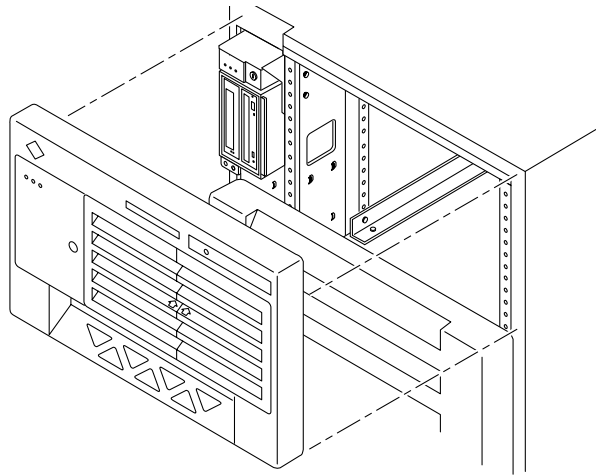
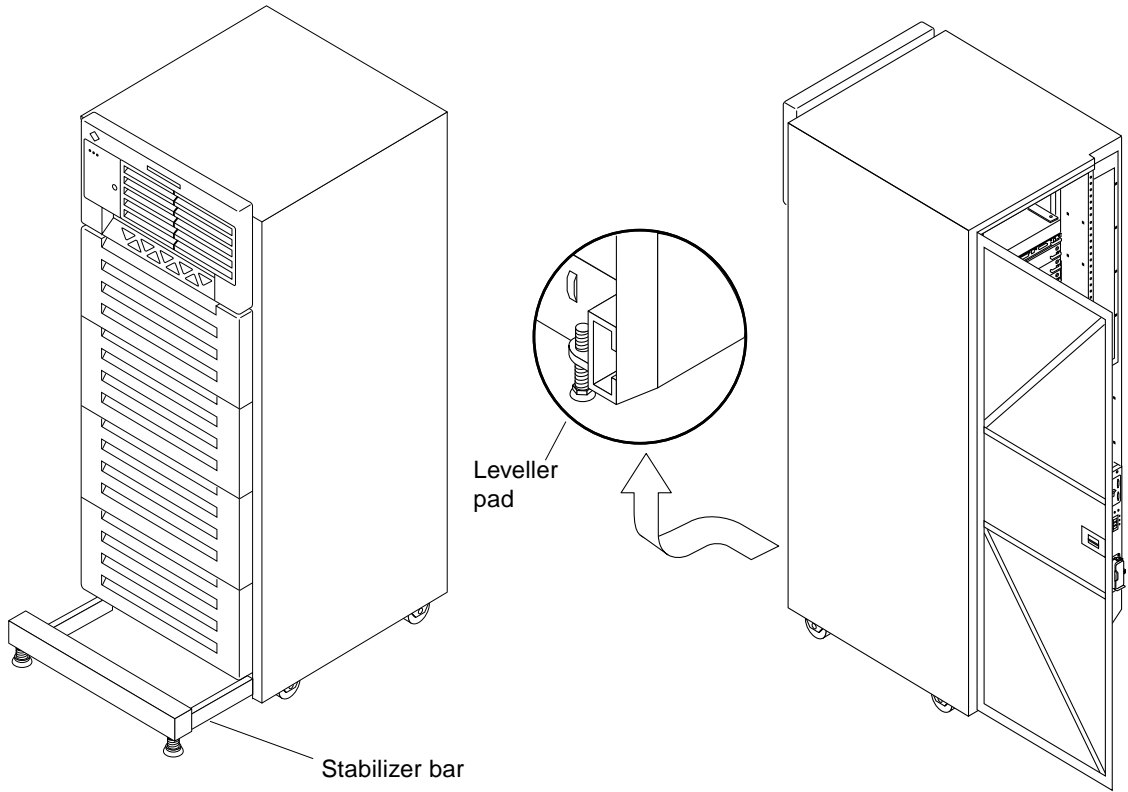

FIGURE 12-1 Removing the Front Bezel
FIGURE 12-6 Stabilizer Bar and Levelling Pads
The Enterprise 6500/5500 system cabinet panels, shown in FIGURE 12-1 through FIGURE 12-6, consist of the following:
2. Grasp the bezel on both sides at the top and pull the bezel away from the ball studs (FIGURE 12-1).
1. **Extend the stabilizer bar fully from the bottom of the cabinet (FIGURE 12-6).**